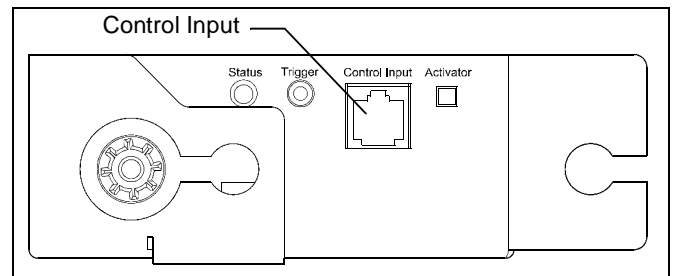

Figure 6
2. Use measurements supplied in Figure 6 to create a template.